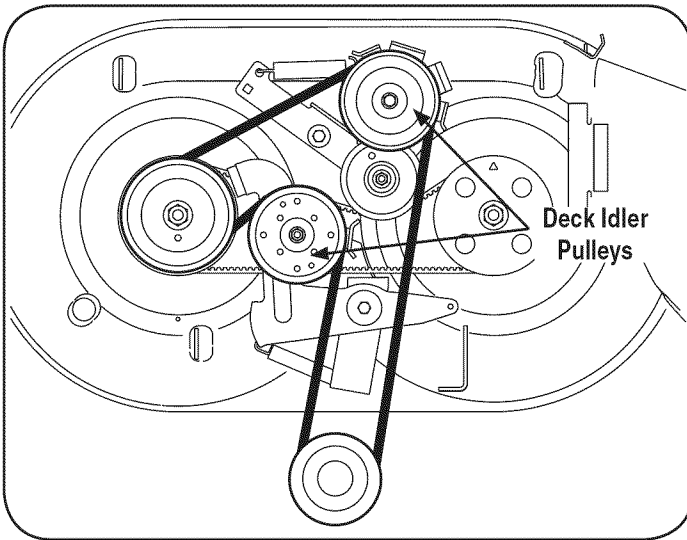

Figure 30
4. Loosen, but not remove, the nut and bolt which secures each deck idler pulley. See Figure 30.
6. Route the new belt as illustrated in Figure 30.